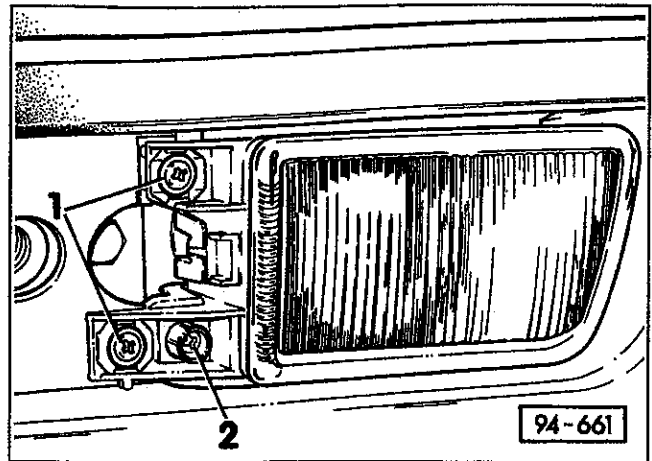

Fig. 6. Fog light mounting screws (1) and adjuster (2).
2. Remove fog light housing mounting screws. See Fig. 6.